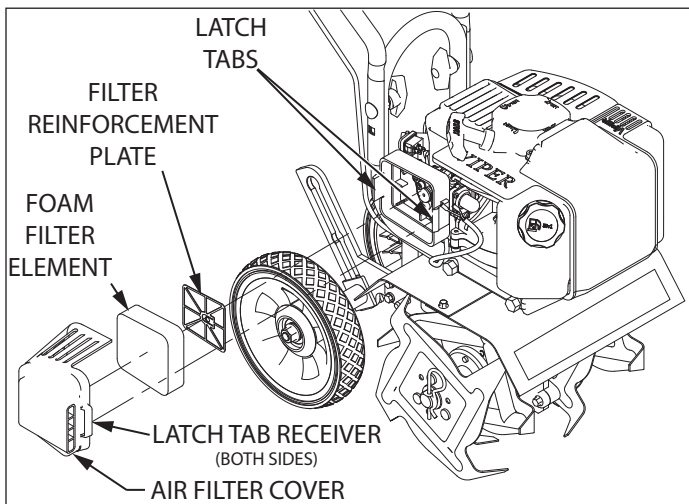

FIGURE 9
2. To remove air filter cover, squeeze the latch tabs on both sides of the cover. **SEE FIGURE 9**